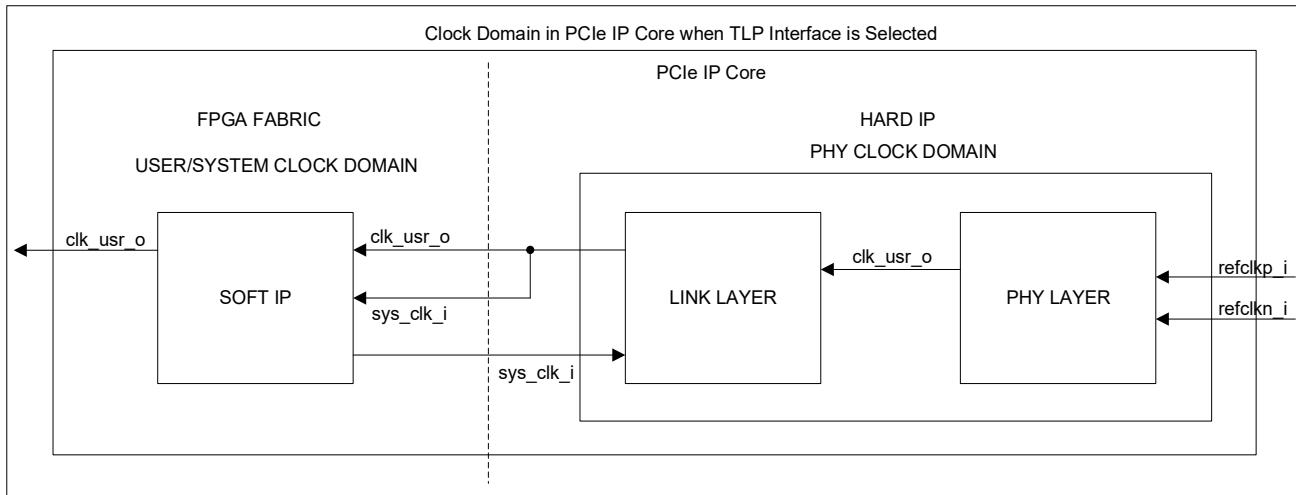

Figure 2.3. PCIe IP Clock Domain Block Diagram for TLP Interface
The PCIe x4 IP includes the following clock domains. The `sys_clk_i` and `clk_usr_div2_i` signals are generated during the PLL IP instantiation. For the TLP interface, you can connect `clk_usr_o` back to the `sys_clk_i`, as shown in Figure 2.3.
- For the TLP interface variants, you can choose to connect `clk_usr_o` back to the `sys_clk_i` as shown in Figure 2.3.